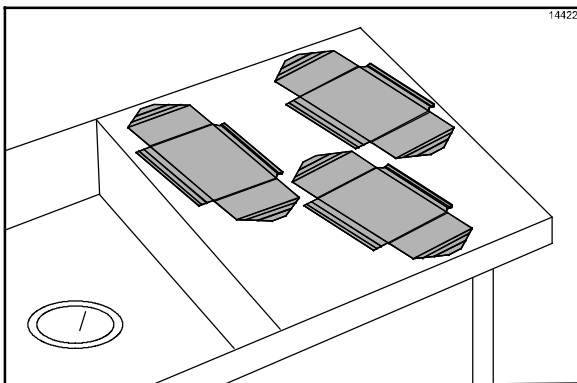

Figure 83
9. Set the release sheets aside on a clean, flat surface until further cleaning is performed. **Do not** fold, crease, or place them on sharp objects. (See Figure 83.)